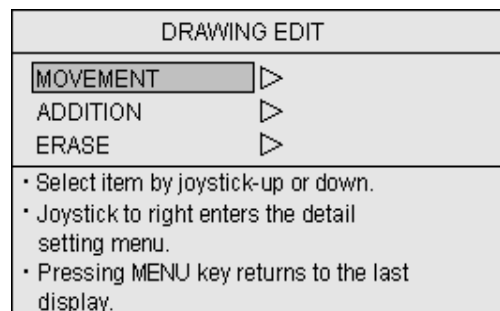

Figure 6.37 DRAWING EDIT sub menu
- (4) Press the Joystick up or down to highlight CURSOR and then press it to the right. The DRAWING EDIT sub menu will appear. (Figure 6.37)